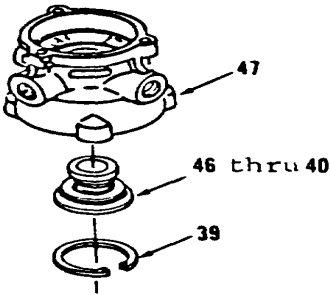

Figure 6-42.
- 4. Install items 46 thru 40 as an assembly and retaining ring (39) into body (47, Figure 6-42).